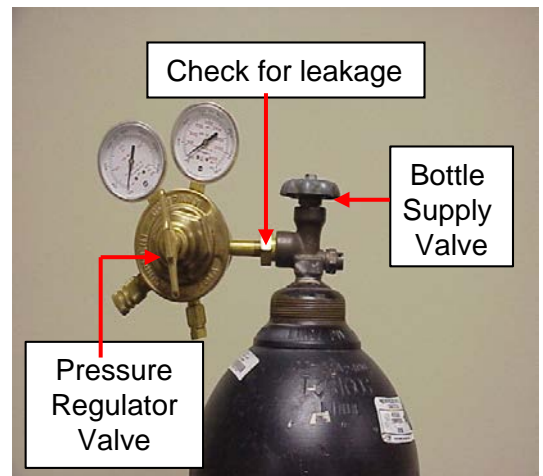

Figure 3
4.3 With Pressure Regulator Valve open, open Bottle Supply Valve and check for leakage around fitting (Figure 3). If leakage is detected, close Bottle Supply Valve and retry tightening with wrench. If unsuccessful, regulator must be replaced.